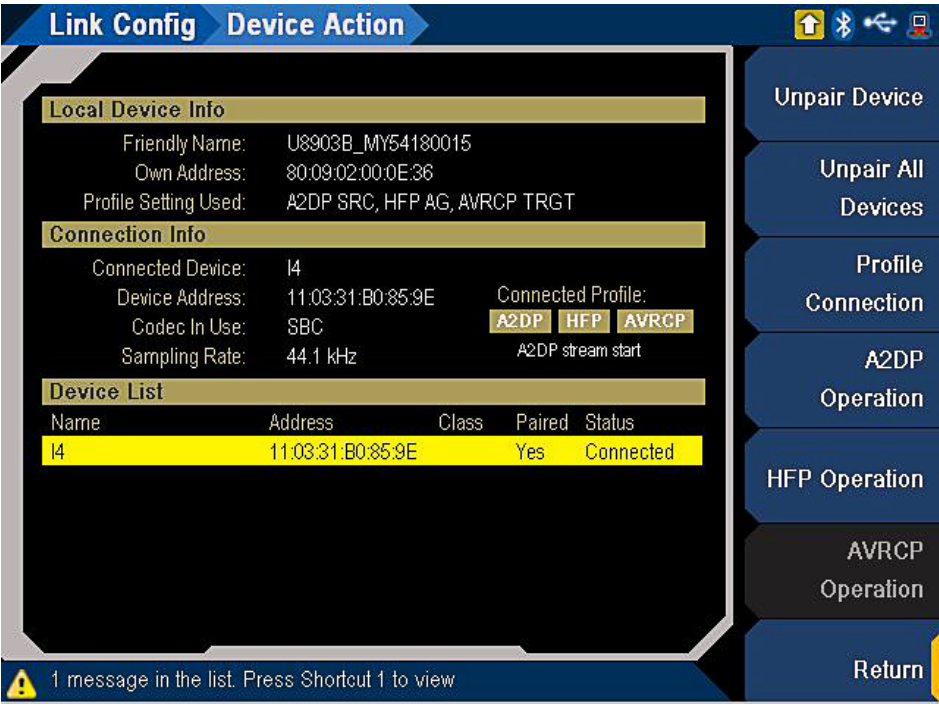

Figure 10. Bluetooth link configuration for music playback
5. Press {A2DP Operation} and select Open Media Connection. This will establish an audio connection between the U8903B and the DUT as shown in Figure 10. The U8903B simulates a mobile or an MP3 device to playback music and streams it to the DUT.